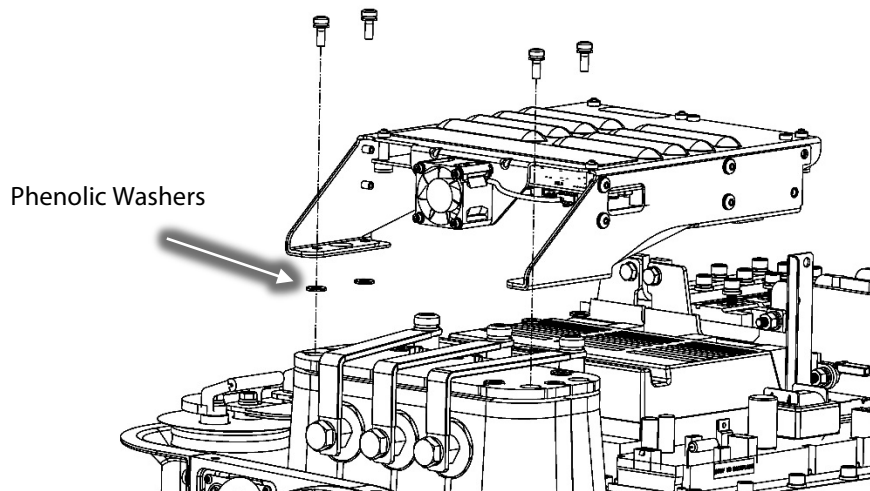

Figure 30 – Soft Start Placement
27. Reinstall the fuse assemblies to the SCRs and the Mains Input Terminal Block. Torque the fasteners of the fuse assemblies to specification. Refer to Figure 30 (Fuse Assembly Installation).